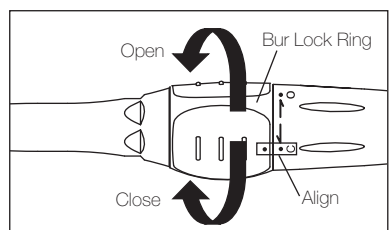

Fig. 2
- 1) Open the chuck to turn the Bur Lock Ring. (Fig.2)
- 3) Close the chuck to turn the Bur Lock Ring. (Fig.2)